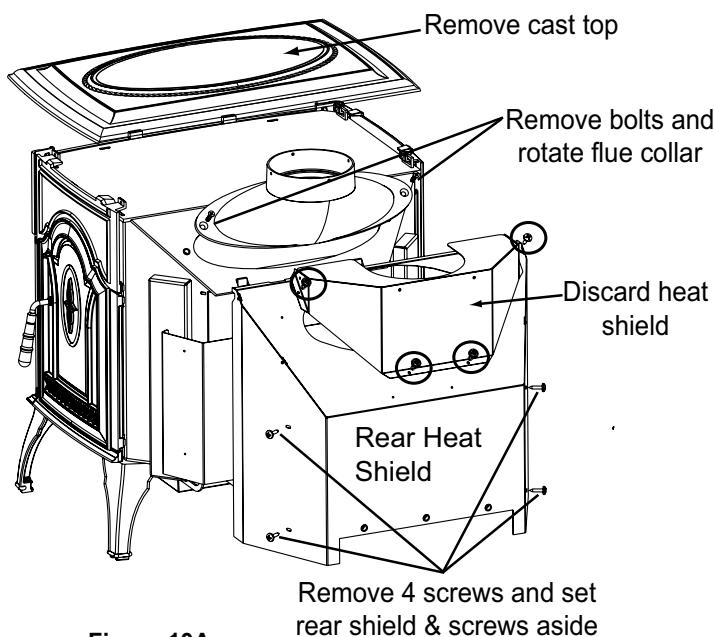

Figure 10A
1. Lift off cast top. Remove 4 Phillips head screws from the heat shield and discard heat shield. See circled areas in **Figure 10A**.